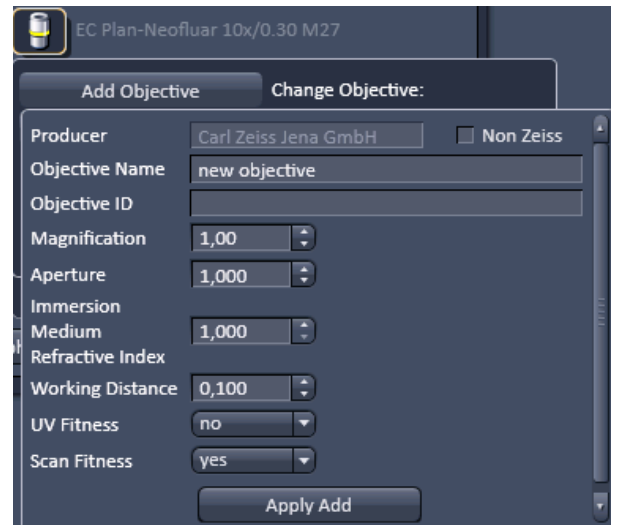

Fig. 449 Adding a new Objective – Editing field
- Click on the Add Objective buttons. The Create new Objective expansion window will appear (Fig. 449). The scrollbar allows access to the whole field.